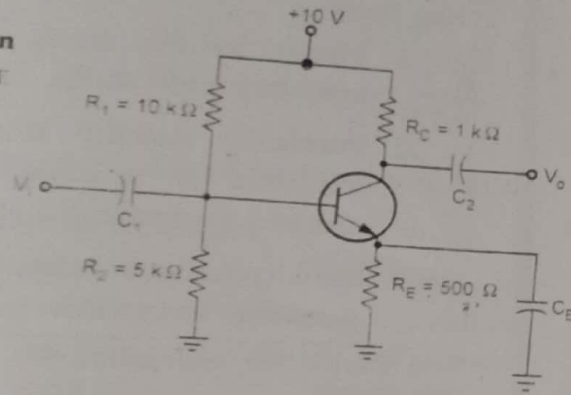

Fig. Q.60.1
Q.60 For the circuit shown in Fig. Q.60.1. $\beta = 100$ for the silicon transistor. Calculate V_{CE} and I_C .